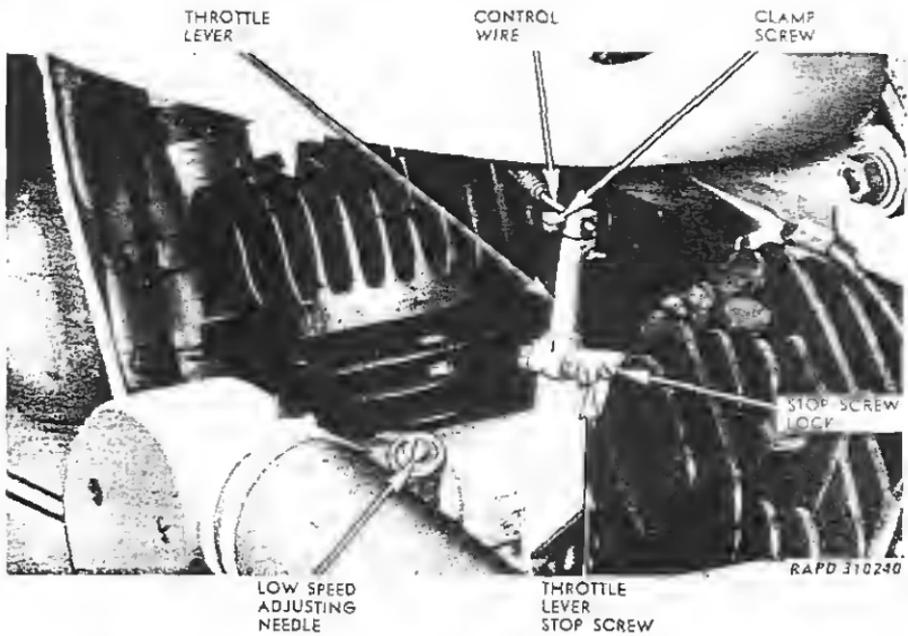
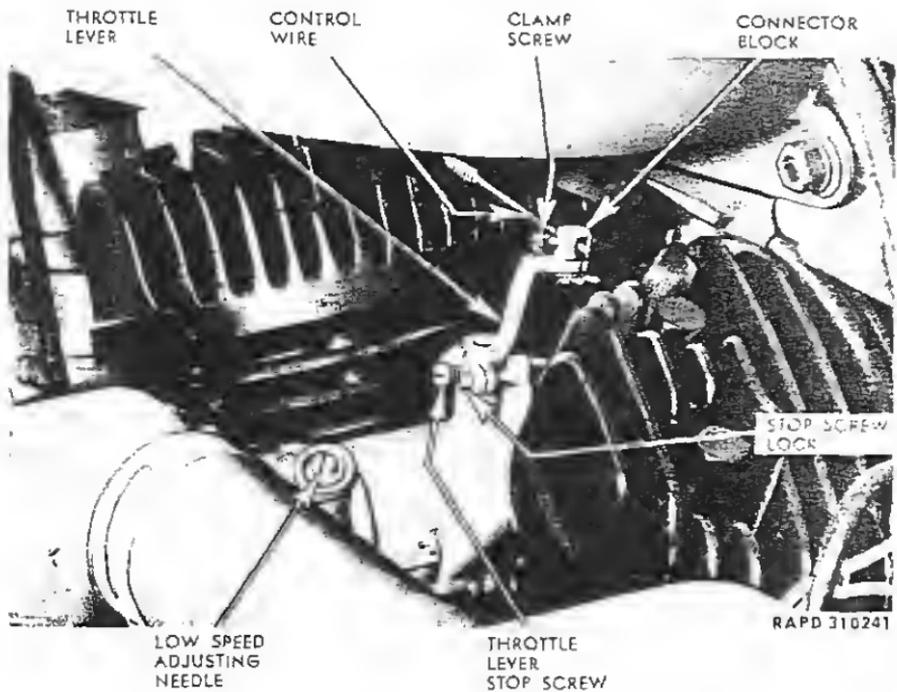

Figure 43—Throttle In Fully Closed Position
Figure 44—Throttle in Fully Open Position
68. CARBURETOR ADJUSTMENT (fig. 43).
(13) See that battery is not entirely discharged by turning on lights (tactical situation permitting) and observing brilliancy.
c. **Low Speed Adjusting Needle** (figs. 43 and 44). Adjustment of this needle valve controls only idling and low speed (up to approximately 30 mph) fuel mixture. Turn needle valve down (to right) to make mixture leaner. Back out (to left) needle valve to make mixture richer. Needle valve is held in any desired position by a spring-and-ball plunger which engages notches in the needle adjusting screw.
(1) Turn the low speed needle valve all the way down (to right).
(2) Back needle valve out (to left) about three full turns. With needle valve in this position, engine will start, but mixture will probably be too rich.
(3) Start engine as follows: After choke lever has been moved to normal open running position and engine is normally hot, correct adjustment of needle valve by turning needle valve down (to right) one notch at a time until mixture becomes so lean that engine misses, and is inclined to stop; then back out (to left) needle valve 5 to 10 notches, or until engine fires regularly with spark advanced and throttle closed (or as nearly closed as it can be set and still have engine running at idling speed).
(4) Adjust throttle lever stop screw (fig. 43) as necessary to make engine idle at proper speed with throttle in fully closed position. Turning stop screw to the right makes engine idle faster. Turning stop screw to the left makes engine idle slower. Do not idle engine at the slowest possible speed, because an extremely slow idling adjustment causes hard engine starting. Changing idling speed with throttle stop screw is likely to change the low speed fuel mixture to some extent; therefore, it will be necessary to again check and correct the low speed needle valve adjustment (step (3) above).
(5) Engine starting and all-round carburetion will be improved with low speed fuel adjustment slightly rich, rather than extremely lean.
MOTORCYCLE, SOLO (HARLEY-DAVIDSON MODEL WLA)**69. THROTTLE CONTROL WIRE ADJUSTMENT (figs. 43 and 44).**
b. **Adjust Fully Closed Throttle** (fig. 43). See that there is about 1 inch distance between end of control wire housing and throttle lever when in fully closed position, so that housing end does not interfere with forward movement of throttle lever. If adjustment of control wire housing is necessary, refer to paragraph 101. Proceed with closed throttle adjustment.
(1) Loosen control wire clamp screw in connector block.
(2) Turn right handle bar grip outward as far as it will go; then turn it inward slightly. Holding throttle grip in this position, move throttle lever forward against its stop (closed position) and secure control wire in connector block with clamp screw. Check closing of throttle after tightening control wire set screw. If necessary, reset the control wire in the connector block until throttle is closed with full outward grip movement.
c. **Adjust Fully Open Throttle** (fig. 44). Follow instructions under step b above, then:
(1) Turn right handle bar grip inward as far as it will go and see that throttle lever is against its stop in fully open position. If throttle does not open fully when grip is turned inward, reset the control wire in the connector block to correct the adjustment.